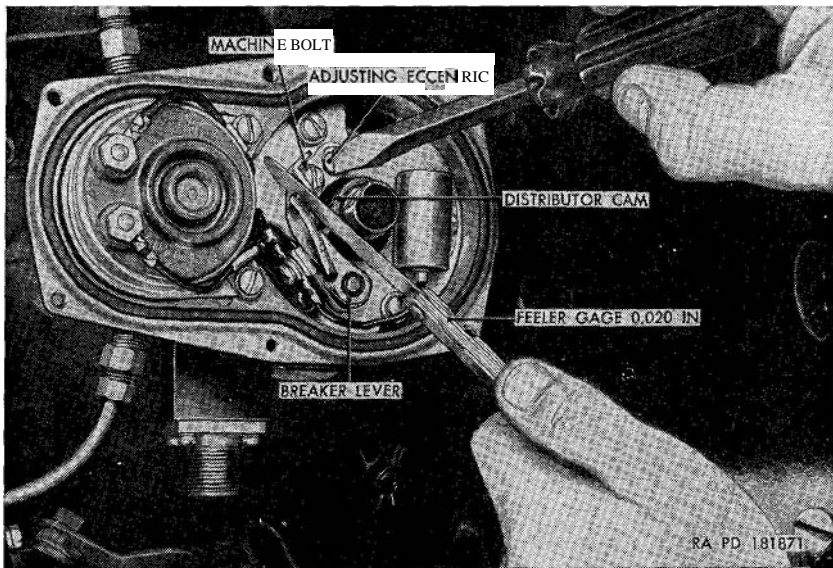

Figure 82. Breaker point gap adjustment.
- (c) Adjust the point gap by turning the adjusting eccentric (fig. 82) until the gap is 0.020 inch. Tighten the bolt and recheck the gap.